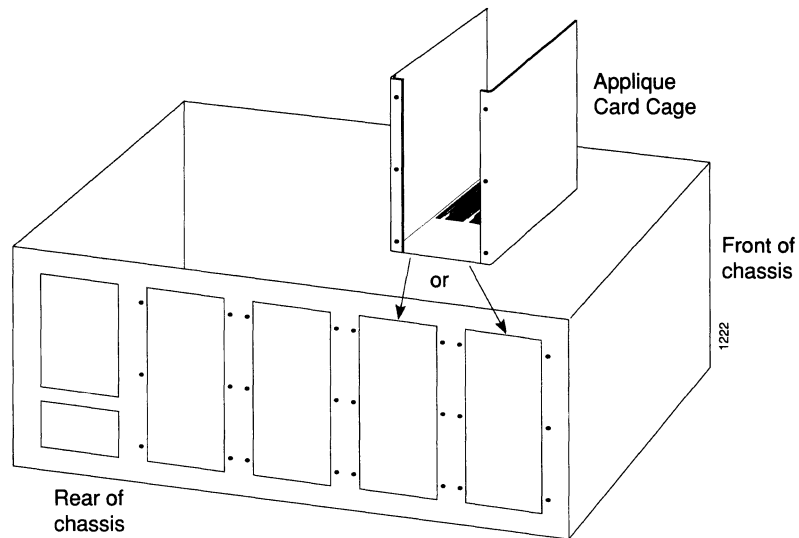
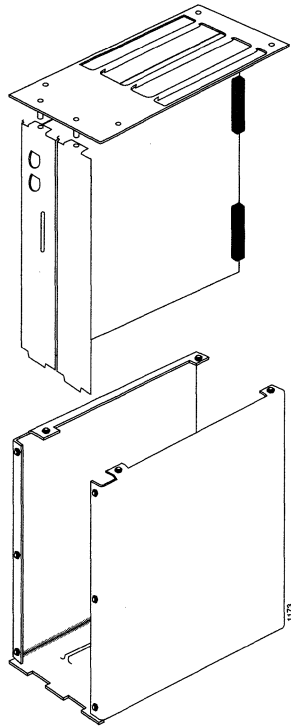

Figure 4-7 Applique Card Cage Placement
Figure 4-8 Applique Card Cage
The applique card cages are installed in the empty space in the rear of the chassis, on the right side as viewed from the rear of the chassis, as shown in Figure 4-7. Up to two applique card cages can be installed in this space.
Step 3: Install an applique, with its attached face plate, into the left side of the card cage (as viewed from the rear of the chassis, shown in Figure 4-7). Ensure that the tab on the bottom of the applique card face plate is inserted into the slot in the bottom of the applique card cage, and that the card is seated in the card guide (see Figure 4-8).
- Step 6:** If you are installing a second applique, install it into the right side of the card cage by sliding it down so that the face plate interlocks with the face plate of the applique on the left of the card cage. As with the first applique, ensure that the tab on the bottom of the applique card face plate is inserted into the slot in the bottom of the applique card cage, and that the card is seated in the card guide (see Figure 4-8). If you are installing only one applique, install a blank filler plate on the right side of the card cage, sliding it down so that the edge interlocks with the face plate of the applique on the left.
- Step 7:** Replace the top cover of the applique card cage. Ensure correct alignment of the cover with the two guide pins on the bottom of the cover, which should pass through the tabs on the top of each face plate and filler plate (see Figure 4-8). Secure the top cover to the card cage and tighten the four fasteners.
- Step 5:** If the card cage is empty, install the FDDI applique, with its attached face plate, into the left side of the card cage. Position the applique so the status LEDs are on the bottom. Ensure that the tab on the bottom of the applique face plate is inserted into the slot in the bottom of the applique card cage, and that the applique is seated in the card guide (see Figure 4-8). If you are installing only one applique, replace the blank face plate on the right side of the card cage, sliding it down so that the edge interlocks with the face plate of the applique on the left.
- Step 7:** Replace the top cover of the applique card cage. Ensure correct alignment of the cover with the two guide pins on the bottom of the cover. The guide pins should pass through the alignment holes in the tabs on the top of each applique and face plate assembly (see Figure 4-8). Secure the top cover to the card cage with the four thumb fasteners loosened in step 1.